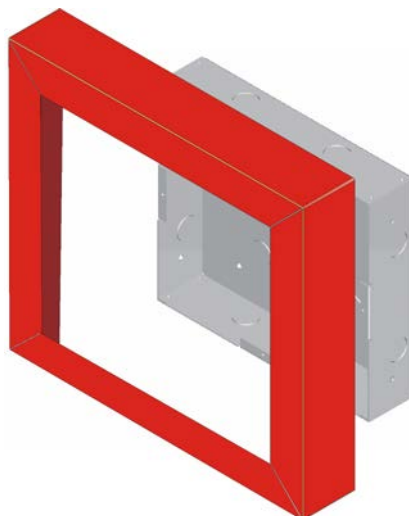

Figure 4.27 Installing Trim Ring
- Place the trim ring over the back box as shown in Figure 4.27.